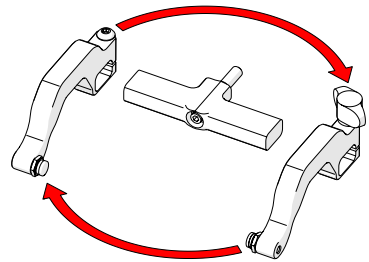

Fig. 99 - Reverse position around yoke
4. Position the removed arms on the opposite sides of the yoke (Fig. 99).